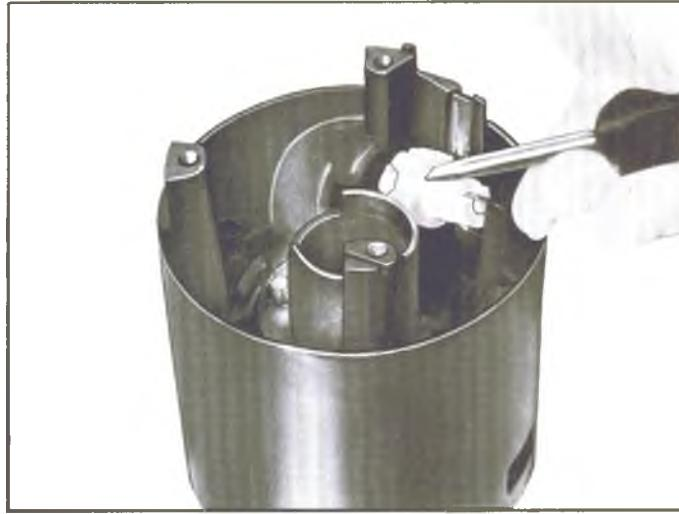

Fig. 68—Removing Ignition Switch Actuator Sector
9. Remove the ignition switch actuator sector through the lock cylinder hole by pushing firmly on the block tooth of the sector with a blunt punch or screwdriver (fig. 68).